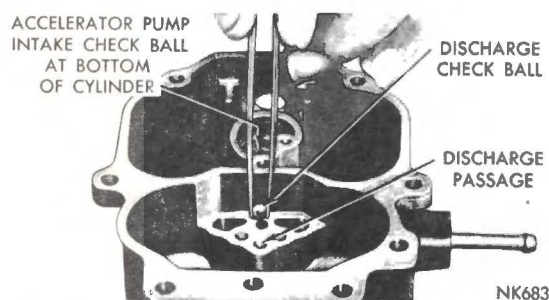

Fig. 6 Installing Accelerator Pump Discharge Check Ball
(2) Install the accelerator pump discharge check ball (5/32 inch diameter) in the discharge passage, as shown in (Fig. 6). Drop the accelerator pump intake check ball (3/16 inch diameter) into the bottom of the pump cylinder.